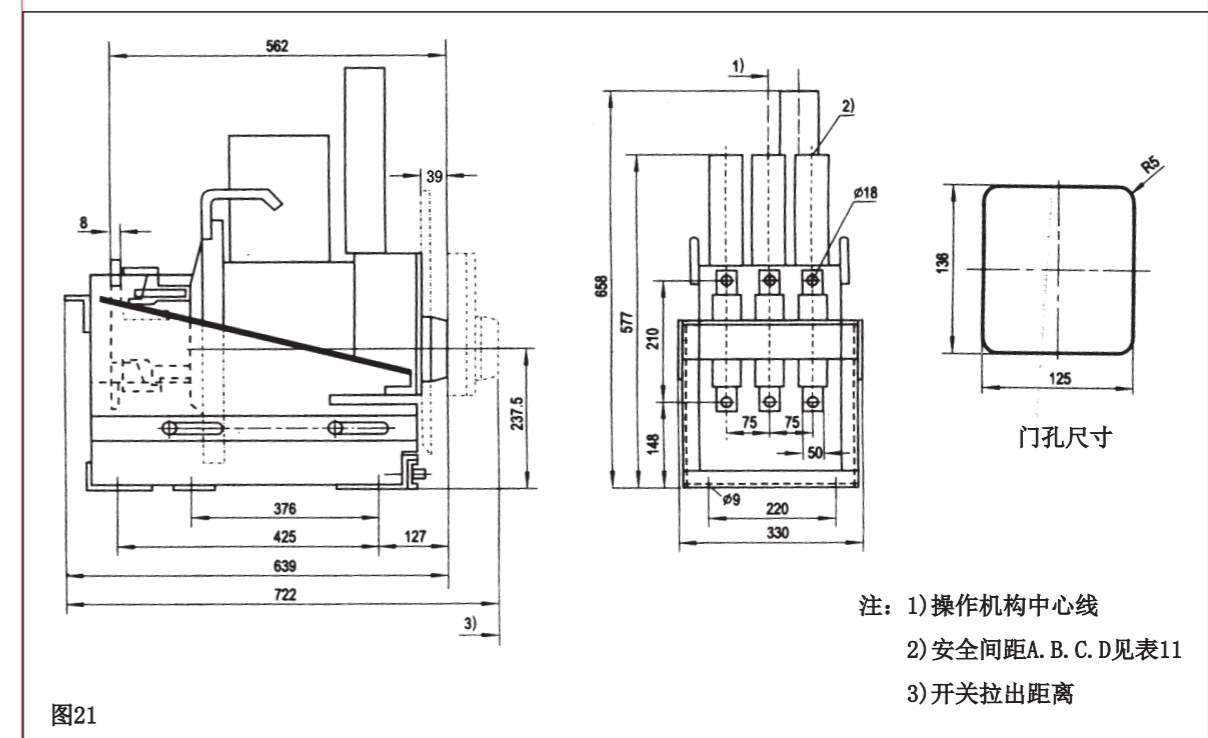

图21
7.2.4 DW17-1900(630/800/1000/1250/1600A)抽屉式断路器外形尺寸见图21